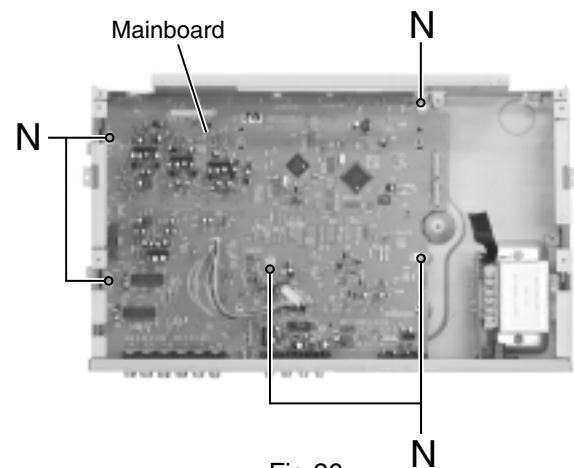

Fig.26
■ Removing the main board (See Fig.26)